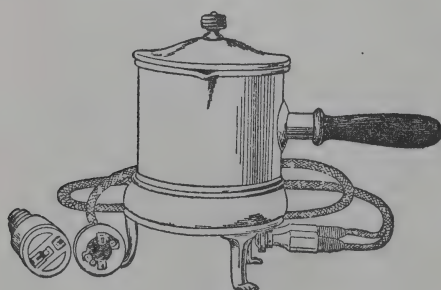

Fig. 75
3. *Traveller's Cooker* (Fig. 75).—This consists of a hot plate with a covered basin permanently attached to it.